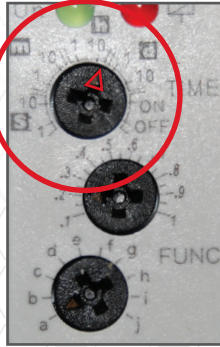
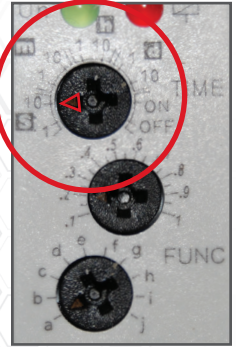

Fig. 1
Fig. 2
3. Push and hold the "TEST" button on the front of the control panel for five (5) seconds to verify that the audible alarm sounds and the LED blinks.
4. Turn the top dial of the timer counterclockwise from the **10h** (Fig. 1) to the **10s** (Fig. 2) band. The leg of the cross with the arrow (highlighted in red) points to the band.
6. Reset the thermostat set-point dial (red) to the factory default of 60°F and reset the top dial of the timer to the **10h** (Fig. 1) band.